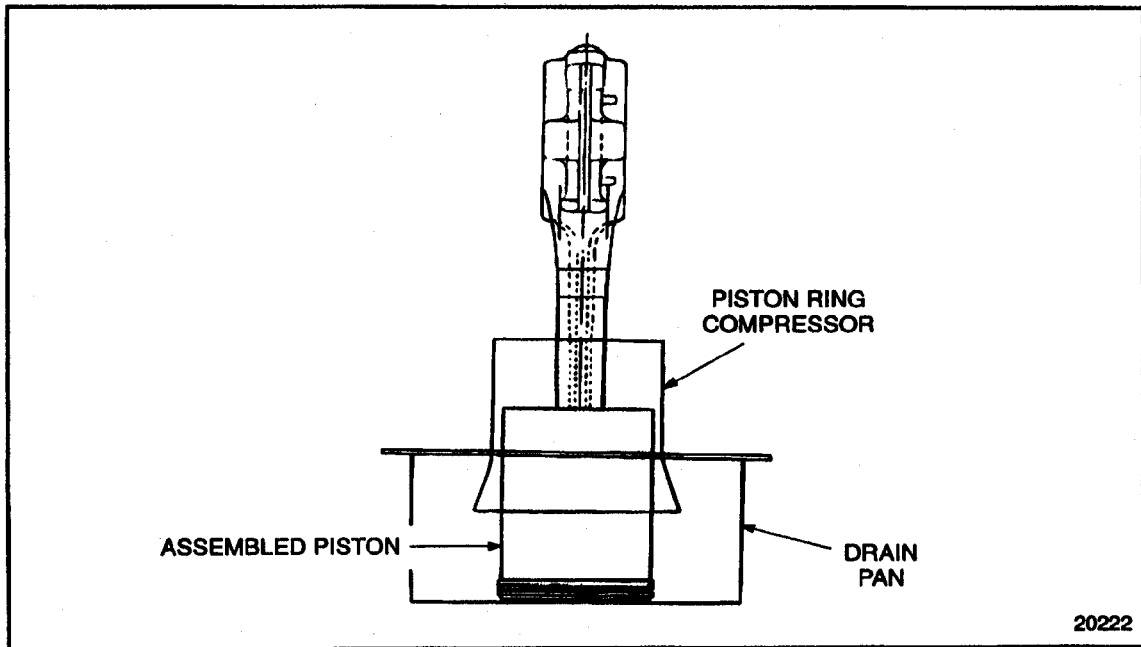

Figure 1-265 Installing Piston and Connecting Rod Assembly into Ring Compressor
8. Install the tapered end of the piston ring compression tool over the end of the connecting rod, and down onto the piston. As the compression tool slides down the piston to the piston ring area, apply slow, even pressure on both sides of the compression tool to compress the rings. See Figure 1-265.